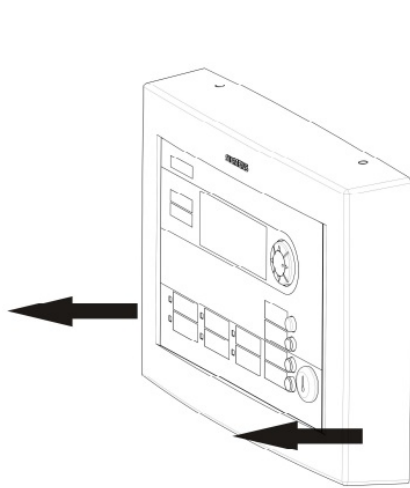

Fig 4
4. Open the front panel (Fig. 4/5), tighten the screws and make sure the display is fixed firmly.